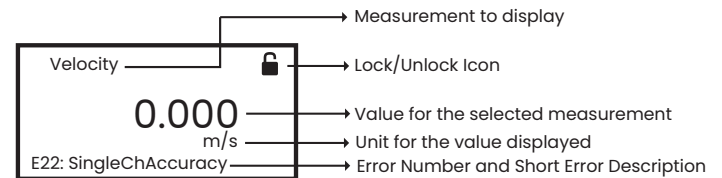

Figure 48: Measurement view
After power up, if the meter's Measurement View (Refer Figure 48) shows a lock icon  on the top right of the display, use the following steps to unlock the meter from keypad lockout mode.
- Finally, the Measurement View (Refer Figure 48)
This screen (Refer Figure 48) will be referred to as "Measurement View" throughout this chapter. User can choose the measurement to be displayed in this view from a list of options. The Error indicator at the bottom left of the display will be blank if the meter has no error.